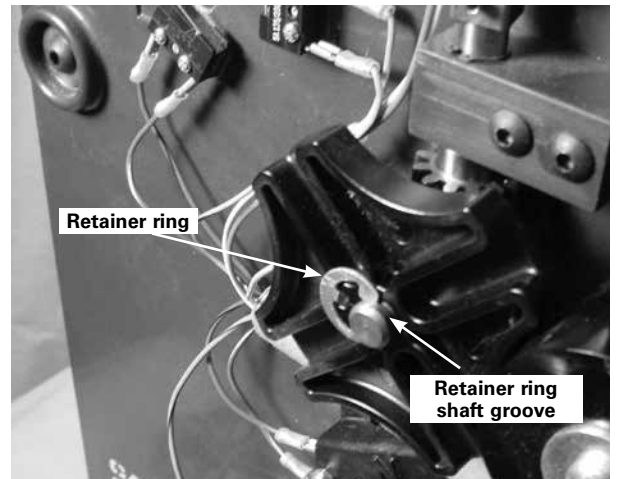

Figure 5. Retainer ring fastening
4. Use a pair of needle-nose pliers to press the retainer ring into the groove on the shaft. See Figures 5 and 6.